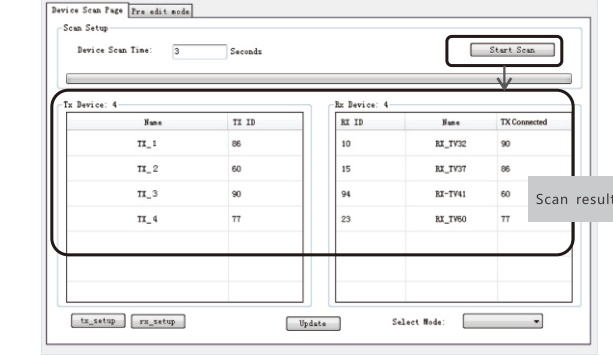

Figure 3
- 4.2.3 Firstly, connect the router to the IGMP switch. Then, connect mobile phone and the router with each other, open the downloaded APP "Matrix Control Lite" will enter to the interface as figure 3, TX ID, RX ID, TX connected number can be re-set by this APP, also can edit device name for marking.
* Click button "Start Scan", the scanned result shows as Figure 3